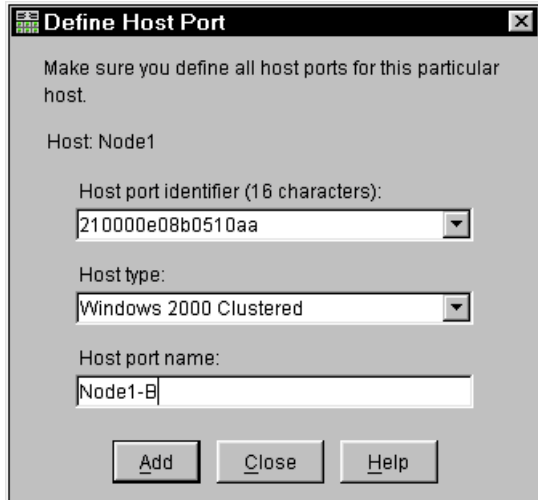

Figure 4-41 Enter the Host Port information
7. In the Define Host Port dialog (Figure 4-41), enter the port name for this adapter and choose the correct operating system. The host port identifier corresponds to the world-wide name of the adapter port. In the drop-down box, you only see the world-wide names that are currently active. If you want to enter a host port that is not currently active, type the world-wide name in the field. Be sure to check for typing errors. The values should correspond to the example in Table 4-2 on page 86.